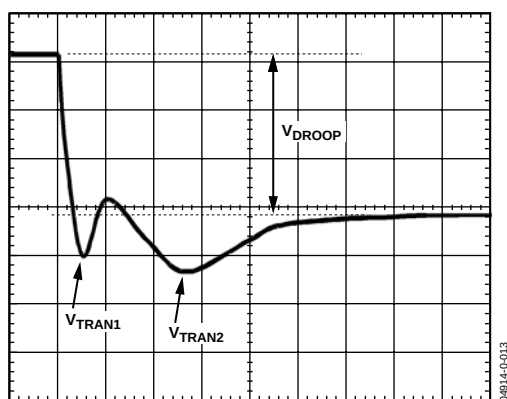
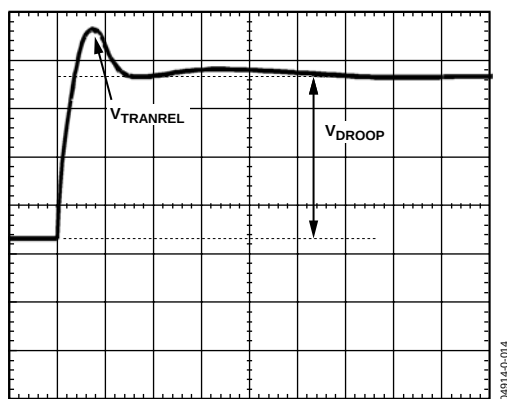

Figure 13. Transient Setting Waveform
Figure 14. Transient Setting Waveform
19. With the dynamic load still set at the maximum step size, expand the scope time scale to see 2 $\mu\text{s}/\text{div}$ to 5 $\mu\text{s}/\text{div}$. The waveform may have two overshoots and one minor undershoot (see Figure 13). Here, V_{DROOP} is the final desired value.
24. For load release (see Figure 14), if V_{TRANREL} is larger than V_{TRAN1} (see Figure 13), there is not enough output capacitance. You need more capacitance or you have to make the inductor values smaller. (If you change inductors, you need to start the design again using the spreadsheet and this tuning procedure.)